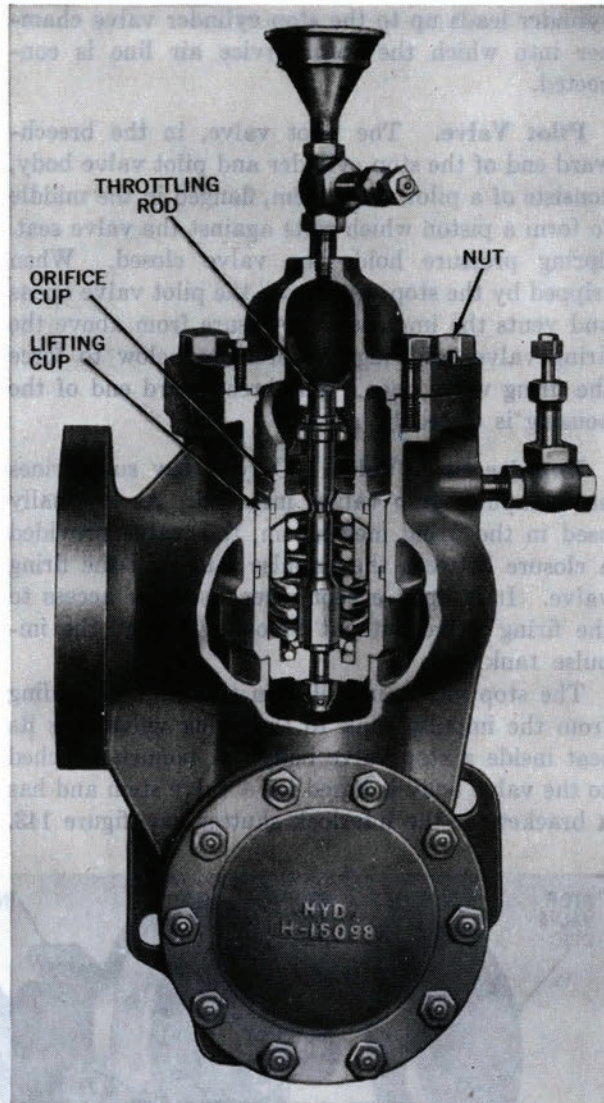

**Figure 144—Firing and Check Valve Body—
**Firing Valve.** The upper part of the firing and check valve body, figure 144, houses the firing valve and the lower part houses the check valve. The firing valve, spindle type, is closed by a lifting cup, held against a valve seat by its own weight and spring pressure, figure 145.